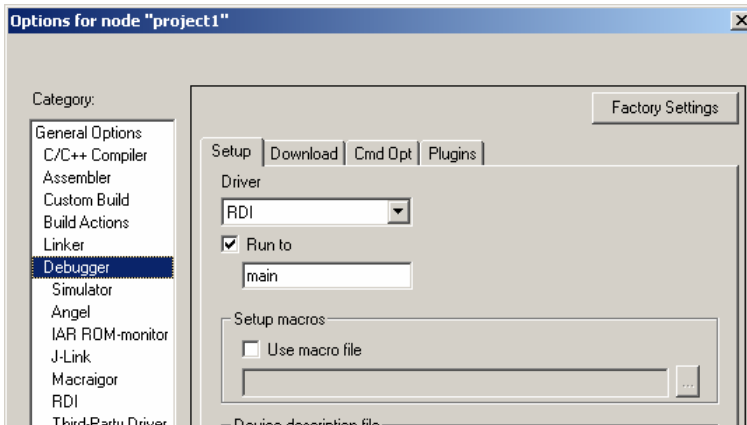

FIGURE 13 Selecting the driver type for C-Spy.
1. Choose Options from the Project menu. The Options for Target dialog box appears. Select the Debugger category. In the Setup tab, choose RDI as the driver, as in Figure 13.